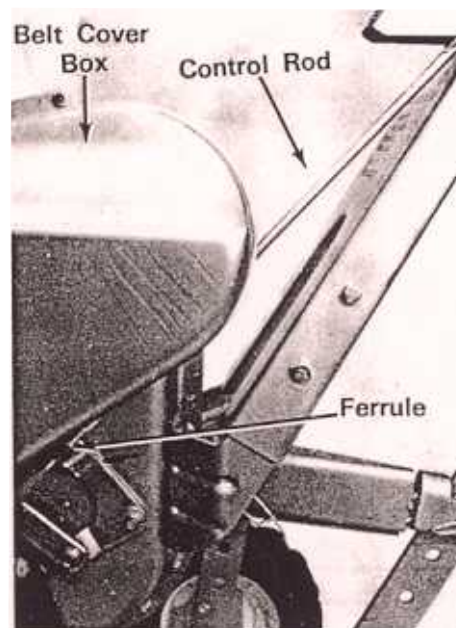

Figure 4
Note: Screw the control rod through the ferrule until it extends approximately 7/8". (See figure 4.)
- 5 If adjustment is necessary, adjust the control rod by screwing it in or out of the ferrule as necessary. (See figure 4.)